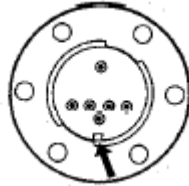

Fig. 1.1 *Stabil-Ion* Gauge showing connector locating key.
2. Any mounting orientation may be used. However, to minimize the possibility of excessive temperature at the electrical connector when degassing, it is best to not install the *Stabil-Ion* Gauges with the electrical connector above the gauge. If it is necessary to install the gauge with the connector on top, degas time must be limited to 10 minutes/hour. When mounting horizontally, the ventilation slots in the Guard will be oriented for best cooling if the gauge is installed with the locating key in the pin guard on the bottom. See Fig. 1.1.